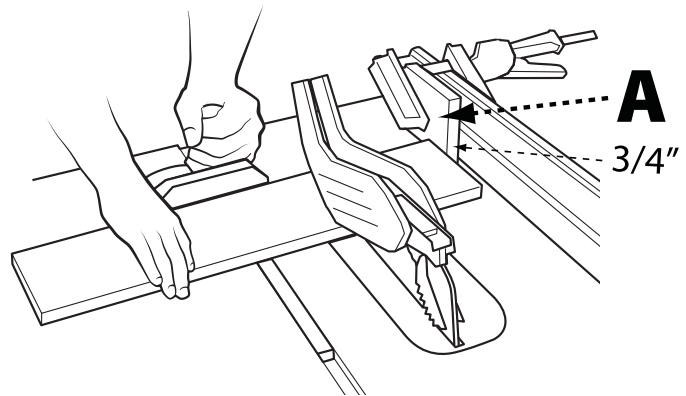

FIGURE 36
When crosscutting a number of pieces to the same length, you can clamp a block of wood (A) (as shown in Figure 36) to the fence and use it as a cut-off gauge. The block (A) must be at least $\frac{3}{4}$ -inch (19 mm) thick to prevent the cut off piece from binding between the blade and the fence. Once the cut-off length is determined, lock the fence and use the miter gauge to feed the workpiece into the blade.